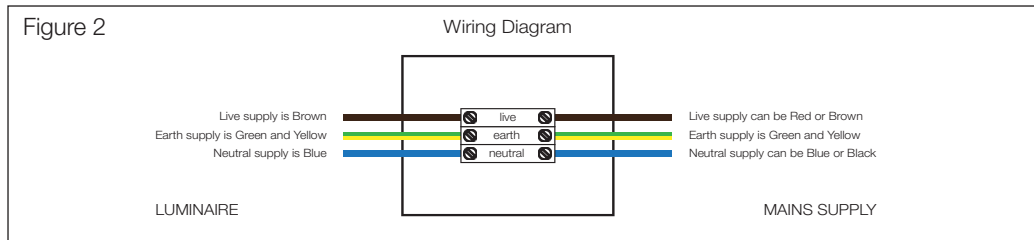

Figure 1
**1)** Position the cabinet in a suitable location, (according to Figure 1 on the back page), ensuring that the domestic electrical mains supply is within reach of the electrical connection point of the cabinet. Carefully mark the position of the top of the cabinet using a soft pencil.